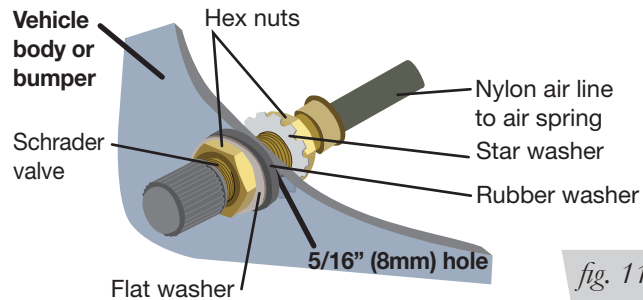

fig. 11
3. Install the Schrader valve in the chosen location (Fig. 11).